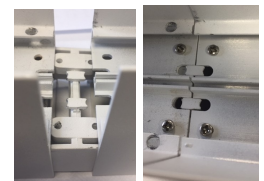

Fig 1.
3. Joining bracket installation is shown below in Fig 1. and is applicable to all variants: